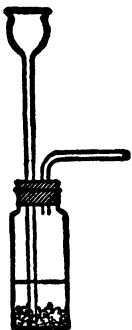

FIG. 14.
a. Fit a 90 c.c. gas-generating bottle with a 2-hole stopper, a thistle-tube, and an L-tube (Fig. 14). Slip a narrow rubber tube over the end of the last, and attach to it a glass delivery tube. Place in the bottle about 20 g. of zinc (gran.). Test the apparatus